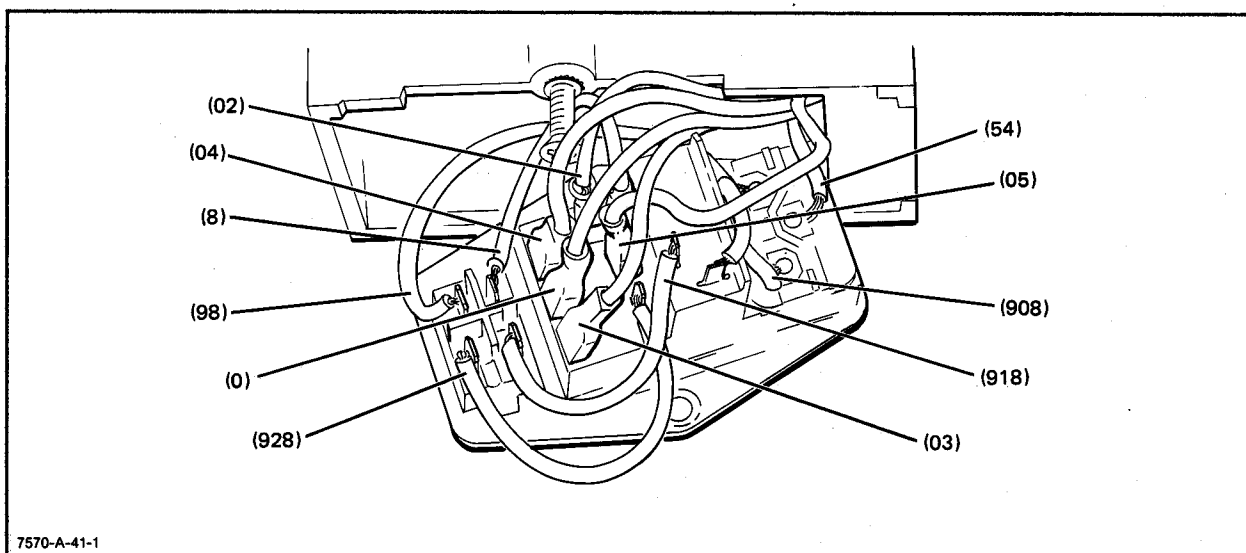

Figure 6-42. AC Power Module
g. Disconnect the transformer primary leads from the ac power module. See Figure 6-42.